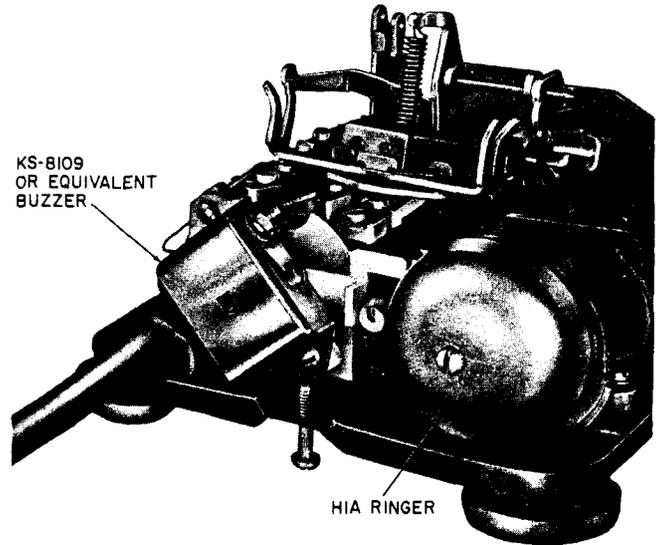

Fig. 9—Location of KS-8109 Type Buzzer
3.05 A KS-8109L2 or equivalent buzzer may be mounted to the ringer bracket provided with sets equipped with an H1A ringer (Fig. 9).